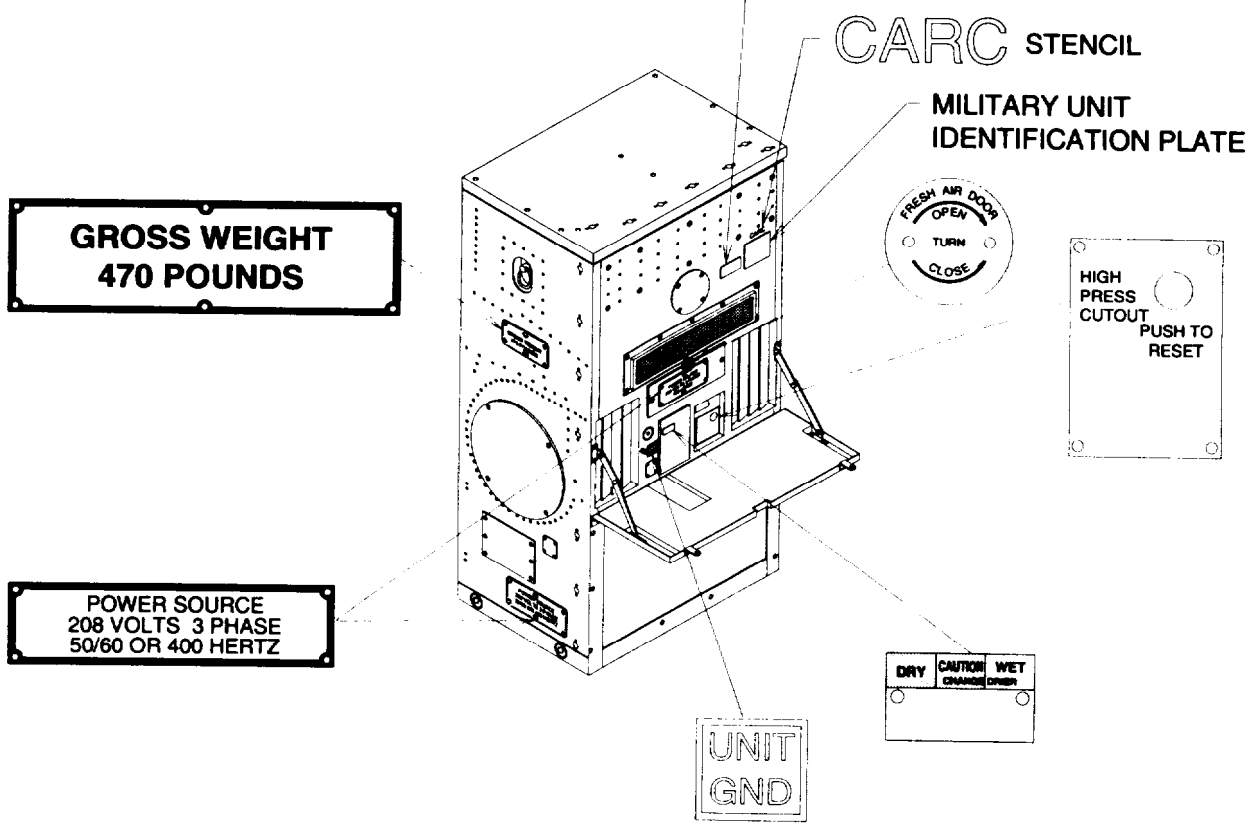

Figure 2-18. Information Plates
**2-9. INFORMATION PLATES.** Decals and information plates located on the equipment are illustrated on Figure 2-18.